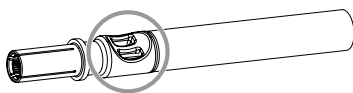

Fig. 33:
4. Crimp contact and cable (if necessary including the reducing bushing) as shown in Fig. 33.